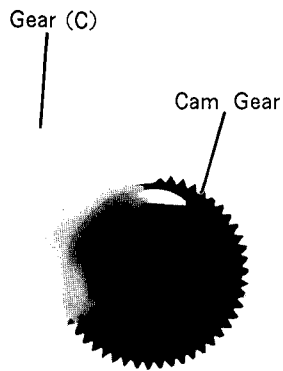
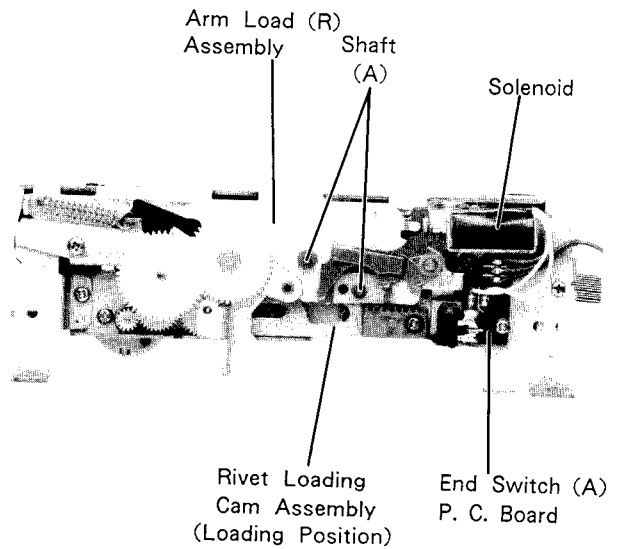

Figure 22
Figure 21
- (1) Set the Rivet Loading cam Assembly to the loading position as shown in Figure 21.
- (2) Engage the cam gear with the gear (C) as shown in the Figure 22, and mount them on the shafts (A) of the Arm Load (R) Assembly as shown in Figure 21.